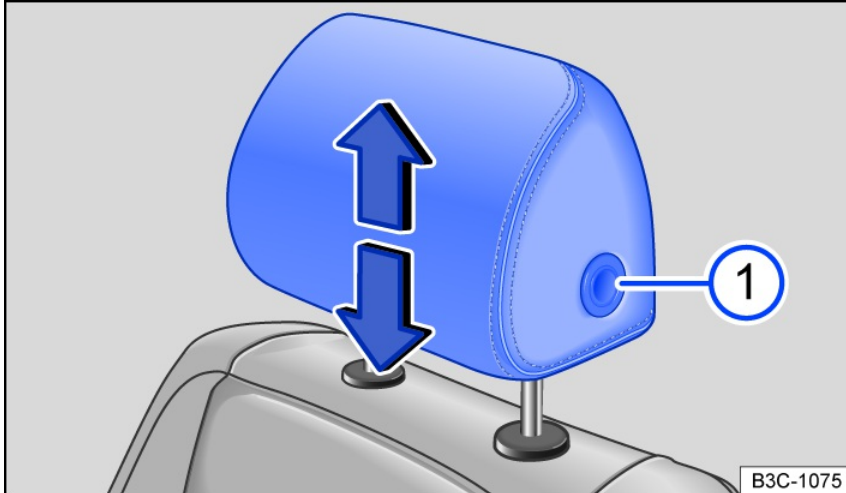

Fig. 72 Front head restraint: adjusting.
- If necessary, slide the head restraint upward or downward in the direction of the arrow and when pressing the fig. 72 ⓘ button.